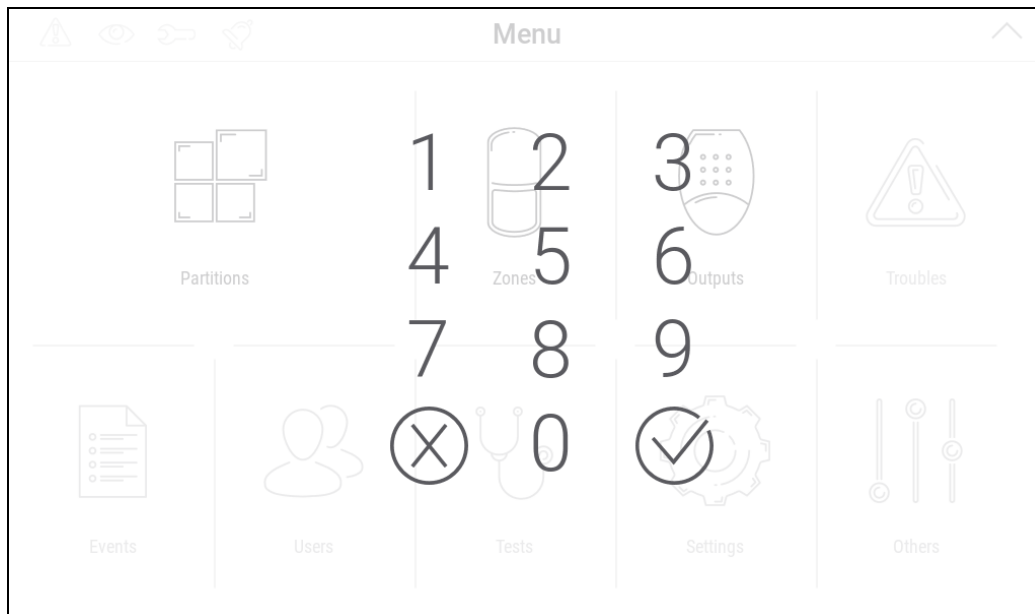

Fig. 3. On-screen keypad.
2. Swipe the screen up. The on-screen keypad will be displayed (Fig. 3).